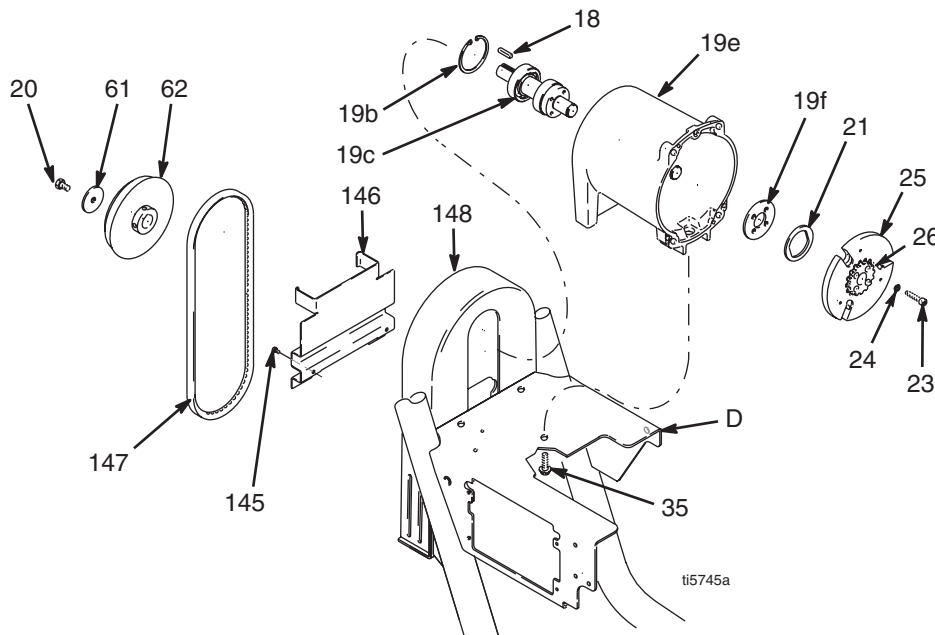

FIG. 9
9. FIG. 9. Remove belt guide bracket (146), belt guard (148) and Vee belt (147).
10. Hold pulley (62) and remove four screws (23) and washers (24) from hub (26). Remove armature (25) and spacer (19f).
11. Engine Detail, page 18. Remove screw (20) and washer (61) from engine drive shaft. Remove pulley (62) and motor shaft sleeve (144). Remove pulley and key (18).
12. Fig. 9. Remove three screws (35) from beneath cart frame (1).
5. FIG. 9. Place spacer (19f) and armature (26, 25) on drive shaft assembly (19c).